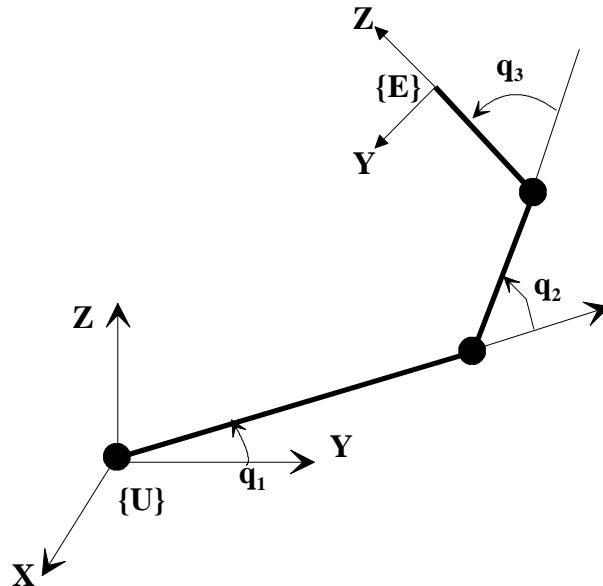

Figure 3
Q.2. (b) Figure 3 shows a planar manipulator with three rotational joints whose joint axes of motion are parallel to the z axis of Frame U.